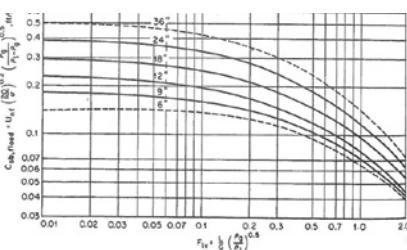

FIGURE 4. The C-factor can be estimated from this graph from Ref. 10
Estimate Souder's & Brown [5] coefficient C_{SB} (also known as C-factor), using the graphs in Figures 4 and 5. Alternatively, Souder's & Brown coefficient (C_{SB}) can be calculated empirically using Equation (2) for SI units [6].